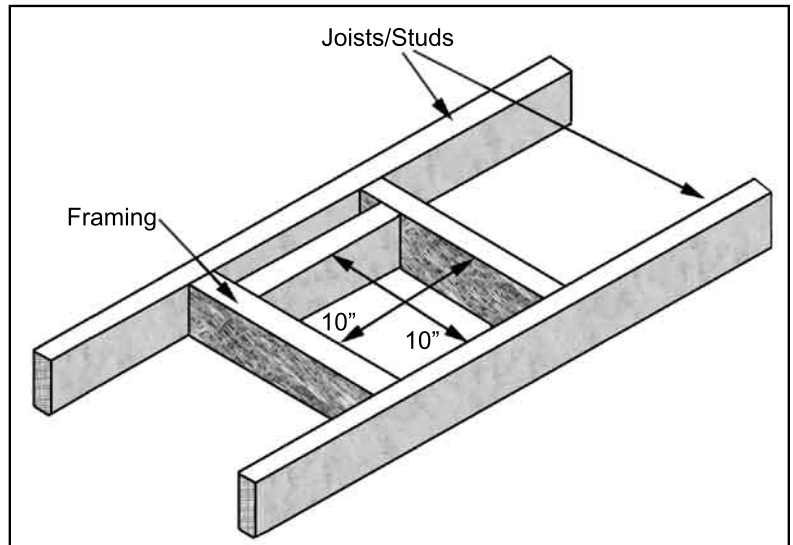
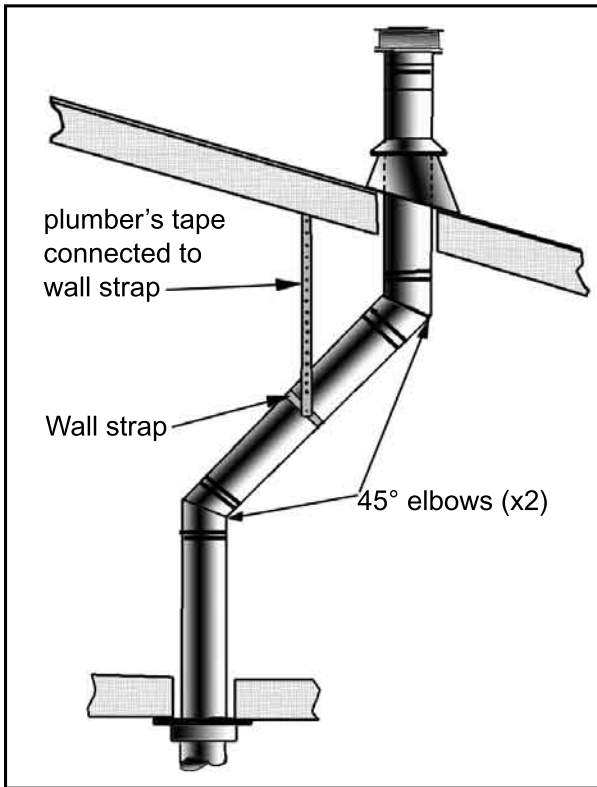
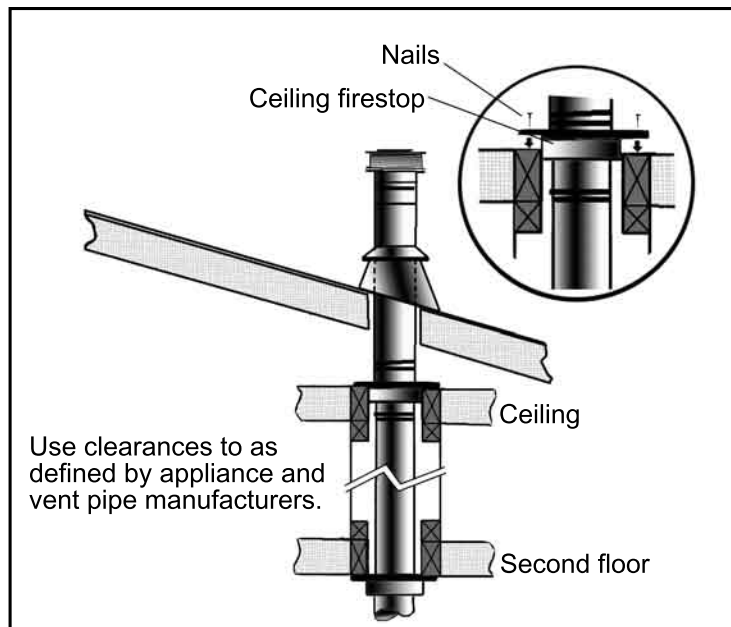

Figure 21. Vent Framing Through Wall/Ceiling.
Figure 28: Use of Wall Straps.
Figure 29: Multi-Story Vent Pipe Installation.
A 1 inch (2.5 cm) clearance to combustibles must be maintained around any vertical vent pipe. Around a horizontal vent pipe, the clearance to combustibles should be 2 inches (5 cm) above and 1 1/2 inches (4 cm) on the sides and bottom. When combustible materials are directly above a 90° elbow, 3 inches (7.6 cm) of clearance are necessary. A 10 inches (25 cm) x 10 inches (25 cm) frame will assure the proper support and spacing for the vent pipe as it passes through the wall. Installations in Canada require that a wall thimble be used for passing through walls and ceilings, see Figure 21. All sealing and vapour barriers must comply with local building codes.
Step 3. With the pipe in the correct position and attached to the fireplace, mark the wall for a 10 inches (25.4 cm) x 10 inches (25.4 cm) square hole (see Figure 21). The center of the hole should match the center line of the horizontal pipe. Cut and frame the hole in the exterior wall where the vent will be terminated. If the wall being penetrated is made of a non-combustible material (i.e. masonry or concrete) a 7 inches (17.8 cm) hole is acceptable.
Step 3. To install the Round Support Box/Wall Thimble in a flat ceiling, cut a 10 inch (25.4 cm) square hole in the ceiling, centered in the hole drilled in Step 2. Frame the hole as shown in Figure 21.
- (1)** If an offset is necessary in the attic to avoid obstructions, it is important to support the vent pipe every 3 feet (914 mm), to avoid excessive stress on the elbows, and possible separation. Wall straps are available for this purpose (see Figure 28).
- (2)** When ever possible, use 45° degree elbows instead of 90° degree elbows. The 45° degree elbow offers less restriction to the flow of flue gases and intake air.
- (3)** For multi story installations; a ceiling firestop is required at the second floor, and any subsequent floors (see Figure 29). The opening should be framed to 10" (254 mm) x 10" (254 mm) inside dimensions, in the same manner as shown in Figure 21.
- (4)** Any occupied areas above the first floor, including closets and storage spaces, which the vertical vent passes through, must be enclosed. The enclosure may be framed and sheet-rocked with standard building materials. However consult the appliance manufactures installation instructions for the minimum allowable clearance between the outside of the vent pipe, and the combustible surfaces of the enclosure. Do not fill any required air spaces with insulation.